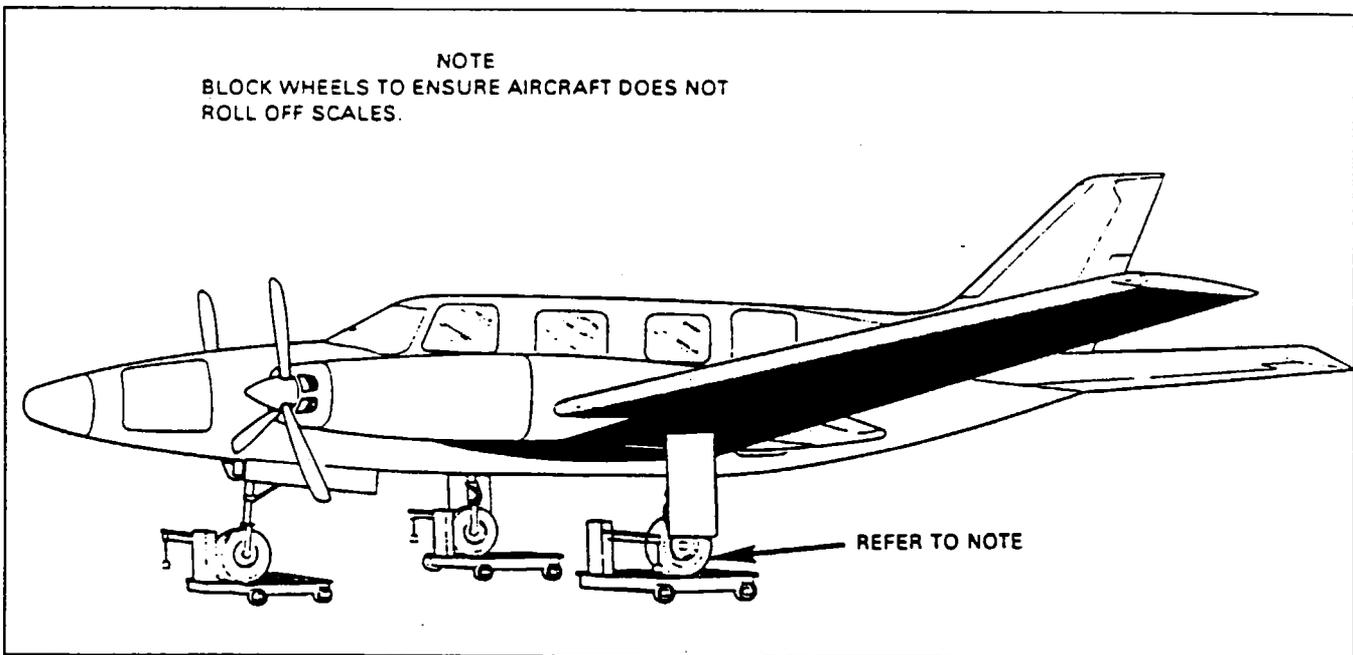

Figure 8-2. Weighing Arrangement
**WEIGHING.** (Refer to Figure 8-2.)